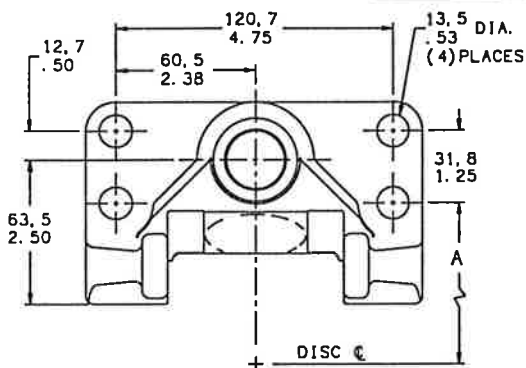

FIGURE 3 **RECTANGULAR MOUNT**
- Using Table 2 and Figures 3 & 4 on the next page, determine "A" dimension and locate mounting bracket assembly holes.